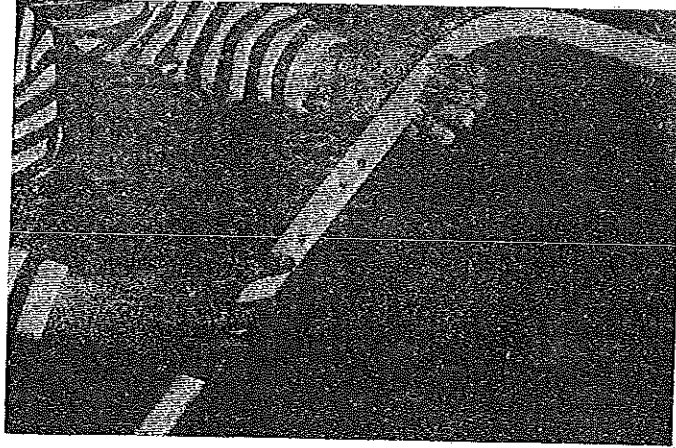

FIGURE 30
40. Adjust bed bow support as necessary to make the tent enclosure over the bed taut. This is done by pressing the release button on the pole and extending the rod to the next hole location. See Figure 30.